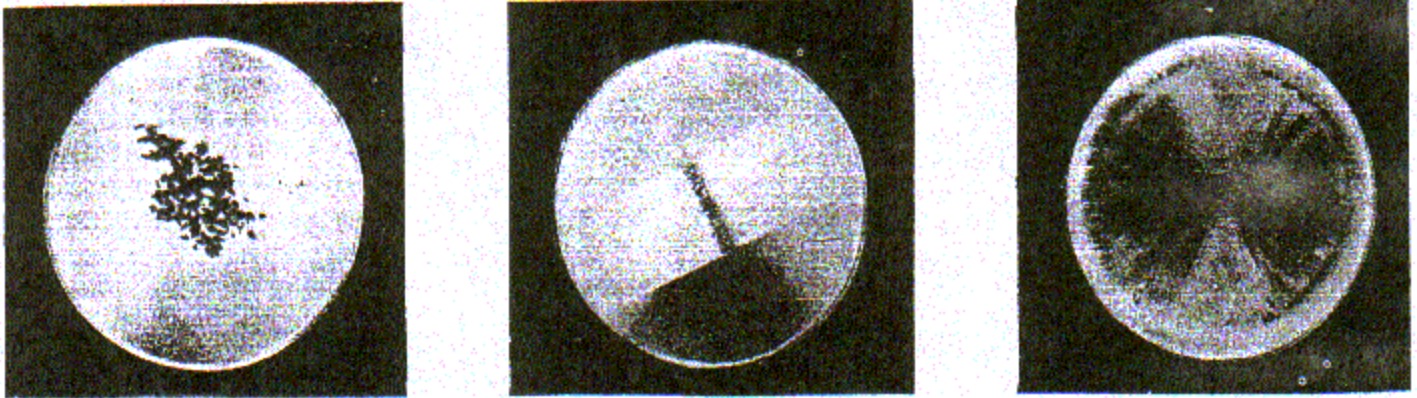

Figure 5-15. Defects of Lifter Face
a. Observe cam follower face for evidence of scoring, spalling (pitting), or groove wear. (See figure 5-15.)